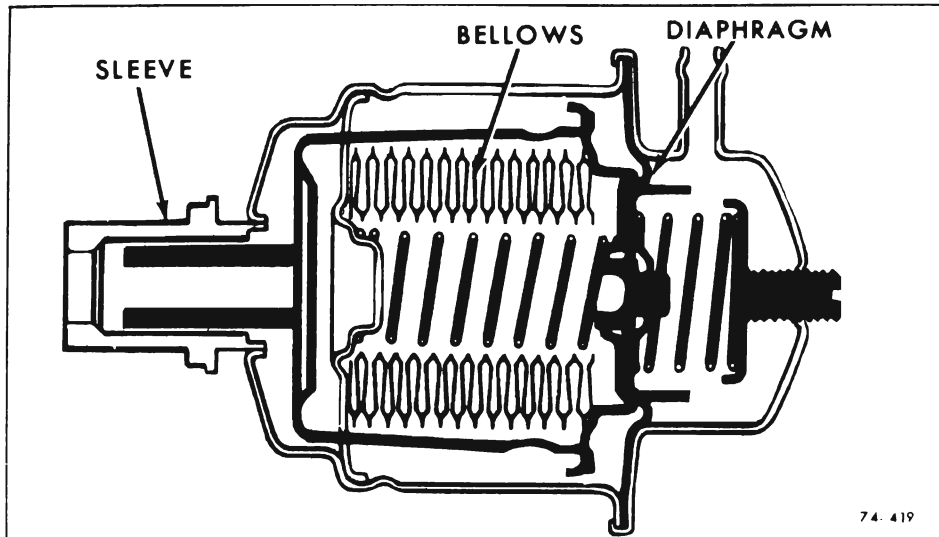

Figure 75-312 - Vacuum Modulator Assembly
The vacuum modulator, See Figure 75-312, has three areas to be checked. If any one of the three (3) areas fail to pass the prescribed checks, the modulator must be replaced.